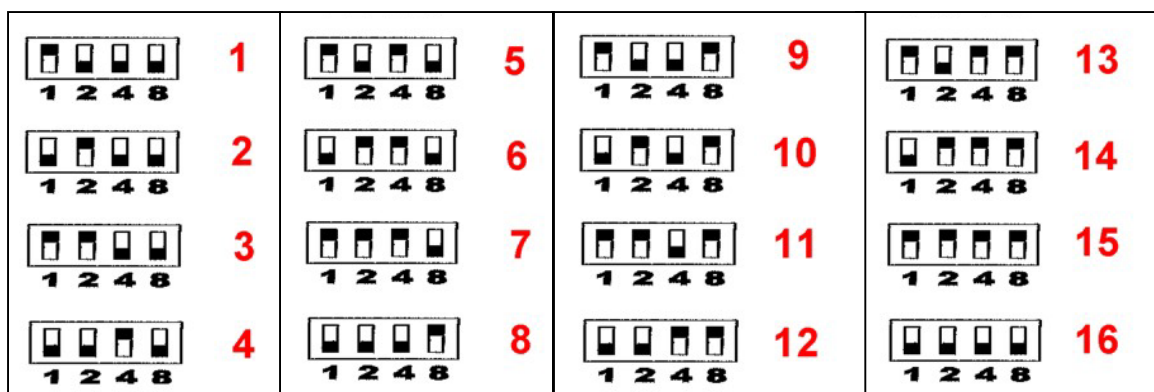

Fig. 18: Compressor Wheel Blade Setting Diagram
2. Set the gauge for your particular compressor wheel. There are 4 dip-switches on the back of the gauge. Set the switches to the correct number of compressor blades based on figure 18 below. (If you desire to use the sensor to pick up a single magnet or machined flat on a shaft, choose 1 blade, or 2 blades if there are 2 magnets or flats, etc.). See figure 17 for example setting for 12 blades. Disregard the "8-6-4" above the dip switches.